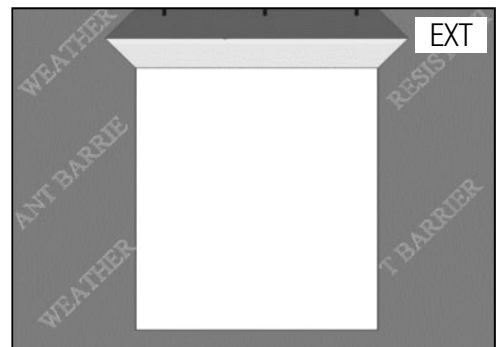

FIG. 4
- J) Temporarily tape this top flap up. (Fig. 4)